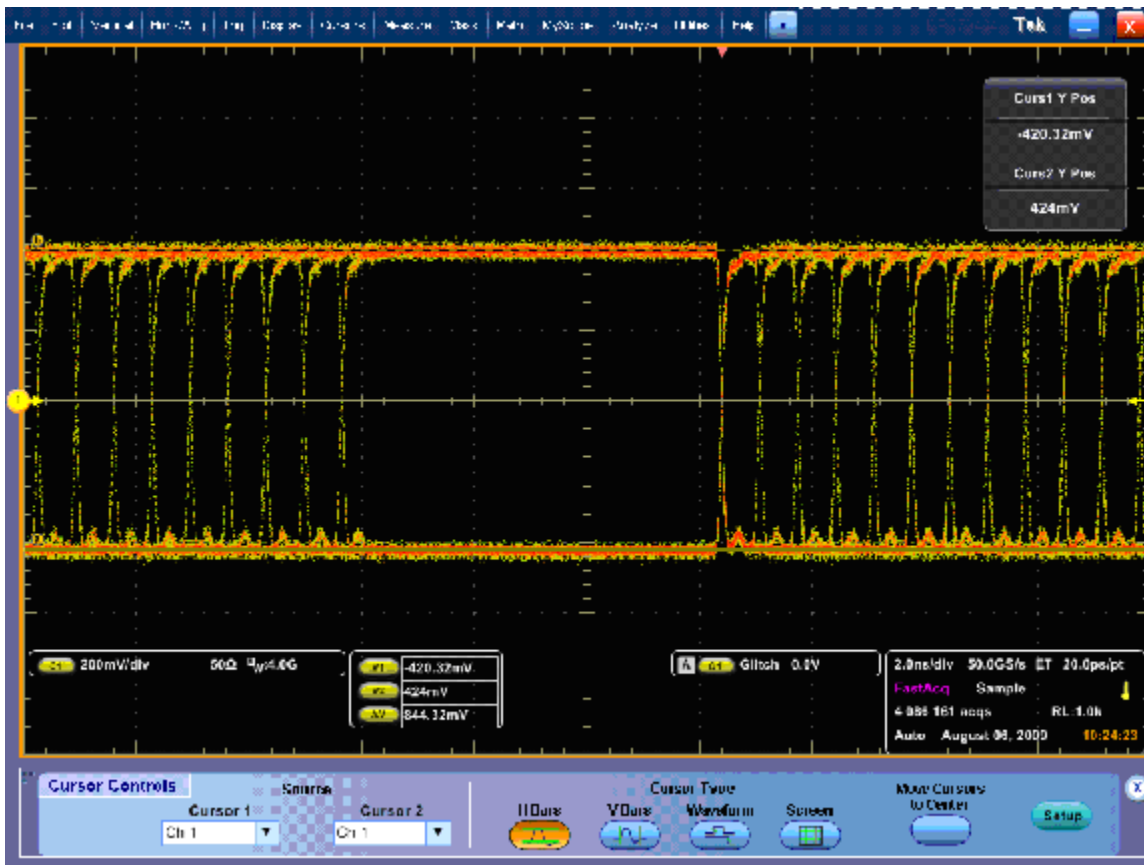

Figure 2: Serial Output at 1.5 Gb/s, using Glitch Trigger mode.
7. Check the serial signal amplitude, using the 7 ns wide region without transitions. The amplitude should be very similar to that noted in step 5. Outside of the 7 ns region, check that the eye is open between transitions. (See Figure 2.)